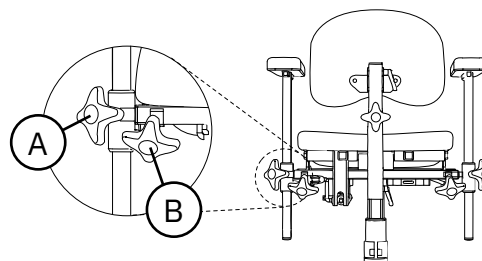

Figure 5.9. PLUS armrest.
The height (A) and the width (B) of the PLUS armrest are adjustable, see Figure 5.9.